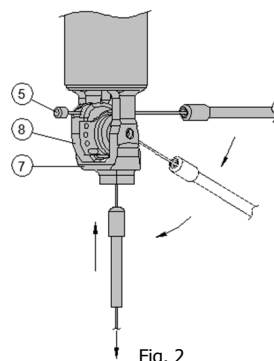

Fig. 2
3. Feed cable ⑤ through Cam ⑧ and insert into ② housing ferrule and Cable housing ④. Seat housing ferrule into bottom of Actuator ⑦. Pull on cable end to remove cable slack. (Fig. 2)